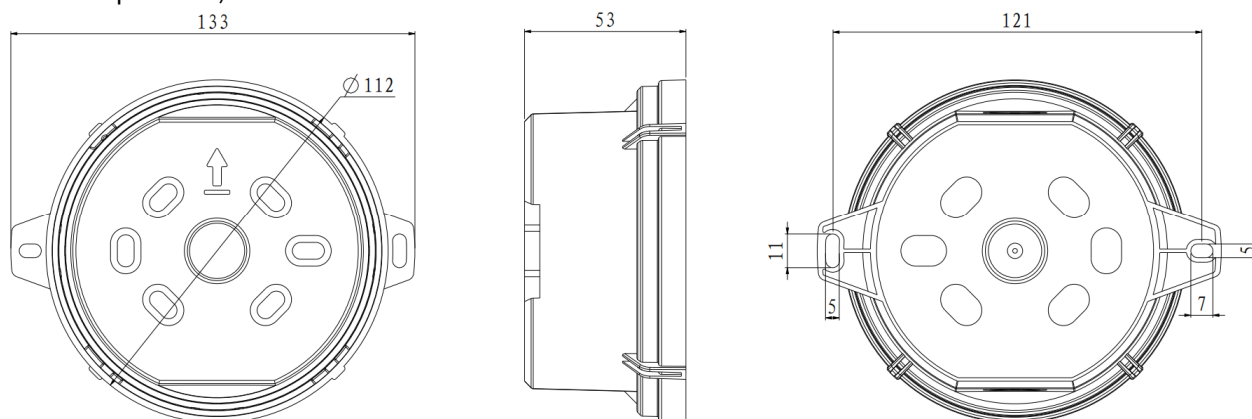

Fig.6 Base For AW-D306HW
- (2) AW-D306HW installation requires the use of supporting base, as shown in Figure 6, the diameter of the fixing hole Φ5mm, the fixing hole spacing for 121mm.
- (3) If the IP rating needs to be IP65, it needs to be used together with the waterproof connector as shown below, remove the side cable entry holes, install the waterproof connector, and then use the screws to fix the base.
- Fix the matching base in the specified position according to the construction drawings using 2 x M4 screws through the mounting fixing holes shown in Figure 6 and should confirm that the base is securely fitted;